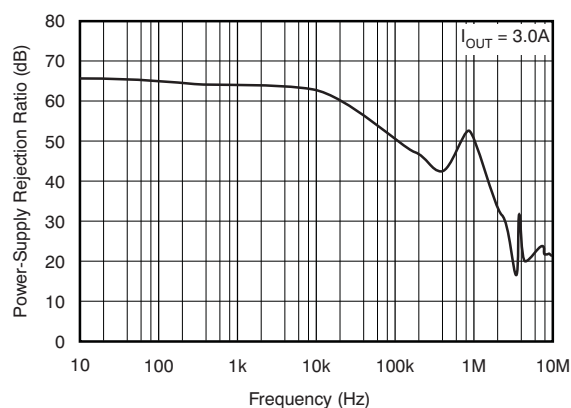
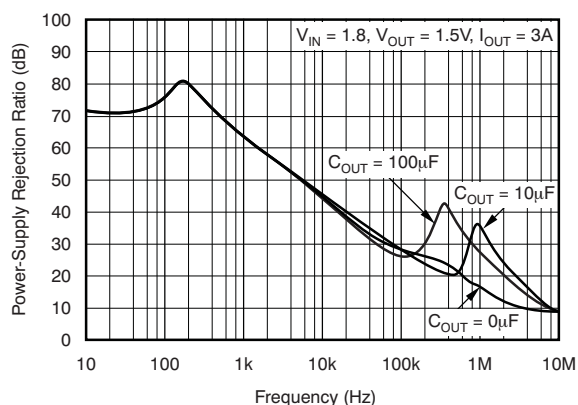

Figure 10.
Figure 13.
(1) Adjustable devices tested at 0.8 V; external resistor tolerance is not taken into account.
(2) Dropout is defined as the voltage from the input to  $V_{OUT}$  when  $V_{OUT}$  is 2% below nominal.
(4) See Figure 10 to Figure 13 for PSRR at different conditions.